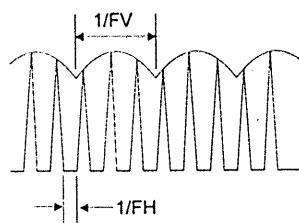

Figure 3-5 Collector of Q303 Output Pulse Correction Wave
- The sawtooth wave is output from Pin 9 of IC302 and through C350 and R364 and input to Pin 2 of IC601 (DC to DC circuit). It is then output from Pin 6 of IC601 and after being sent to T603's second coil output, is added to horizontal B+ to provide pincushion and trapezoid distortion correction. So, is created to perform amplitude modulation on the horizontal deflection output pulse, as shown in figure 3-5.